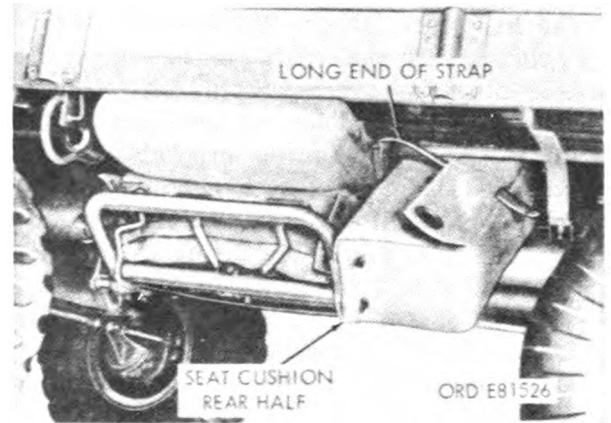

Figure 2-35. Positioning rear half of operator's seat cushion.
(3) Rear half of seat cushion. Position rear half of seat cushion next to the footrest and seat back and push end of long strap through slot in holddown flap of cushion (fig. 2-35). Tighten